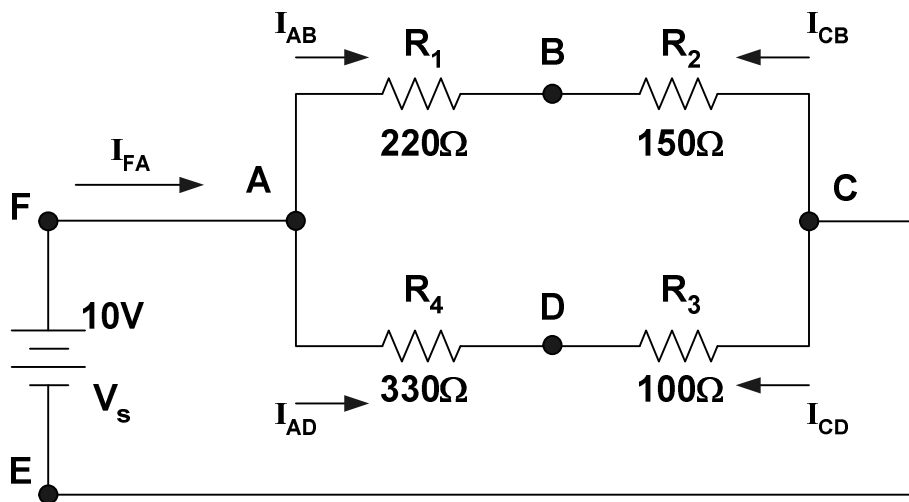

Figure 1: Resistive circuit
1. Construct the circuit shown in Figure 1 using *Multisim Electronics Workbench*.
6. Construct the circuit in Figure 1 with hardware components. Repeat steps 2-5. Enter your results in Tables 1-4. Considering the Workbench results as the base compute the percentage errors.